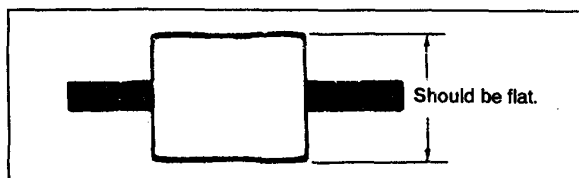

Fig. 4-4.
- 4) Confirm that both the entrance and exit side RF waveforms of the oscilloscope are flat (See Fig. 4-4). If they are not, adjust as follows.